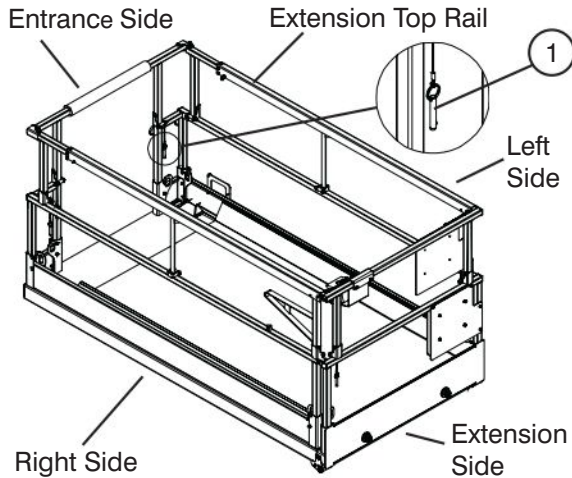

Figure 3-13a. Folding Guardrail System
- Carefully raise each guardrail up and lock into place with locking pins ensuring that the detent ball of each pin is all the way through. (Refer to Figure 3-13a)